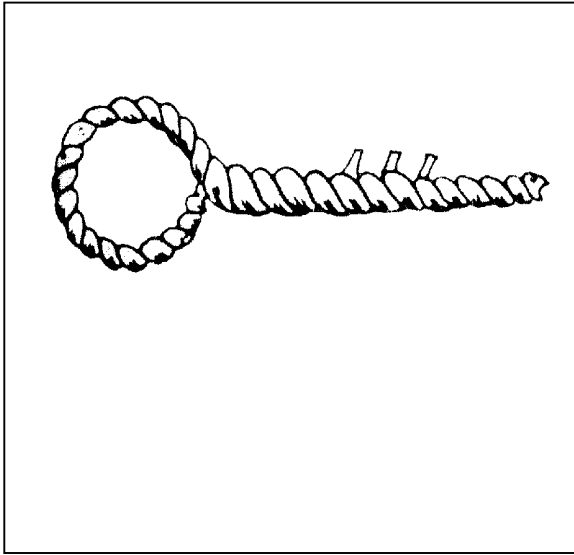

Figure 11-5. Sailmaker's eye splice
g. **Sailmaker's Eye Splice.** A sailmaker's eye splice (Figure 11-5) is used to make a loop that is going to be sewn to canvas. It is like a regular eye splice, but the strands are interwoven so that they follow the lay of the line.